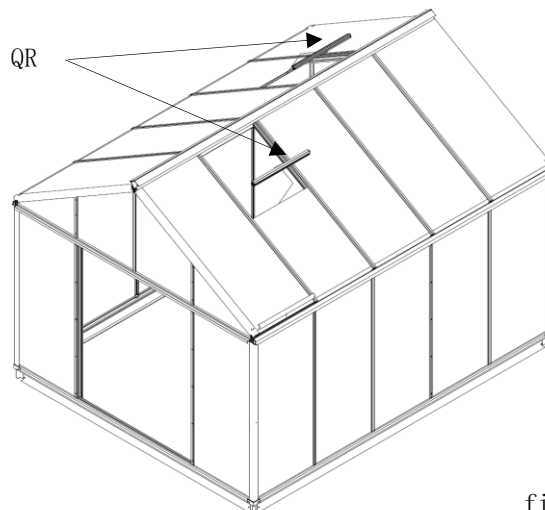

fig. 59
- install the two AG-crossbars (wall glazing-bars) (**item QR**) for the roof windows. (*fig. 59*)
- AG-crossbars (wall glazing-bars) (**item 10.1**)